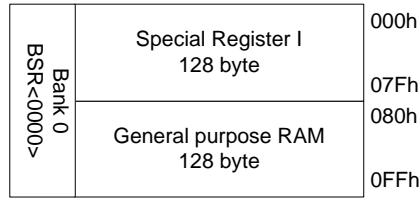

Figure 2-3 Data Memory (DM) Architecture
2.2.2. Data Memory (DM)
Data Memory (DM) is composed of Specially Register (SR) and General Purpose Register (GPR). Furthermore, it takes every 256byte as a block. 128byte Specially Register and 128 byte General Purpose Register is as in Figure 2-3.